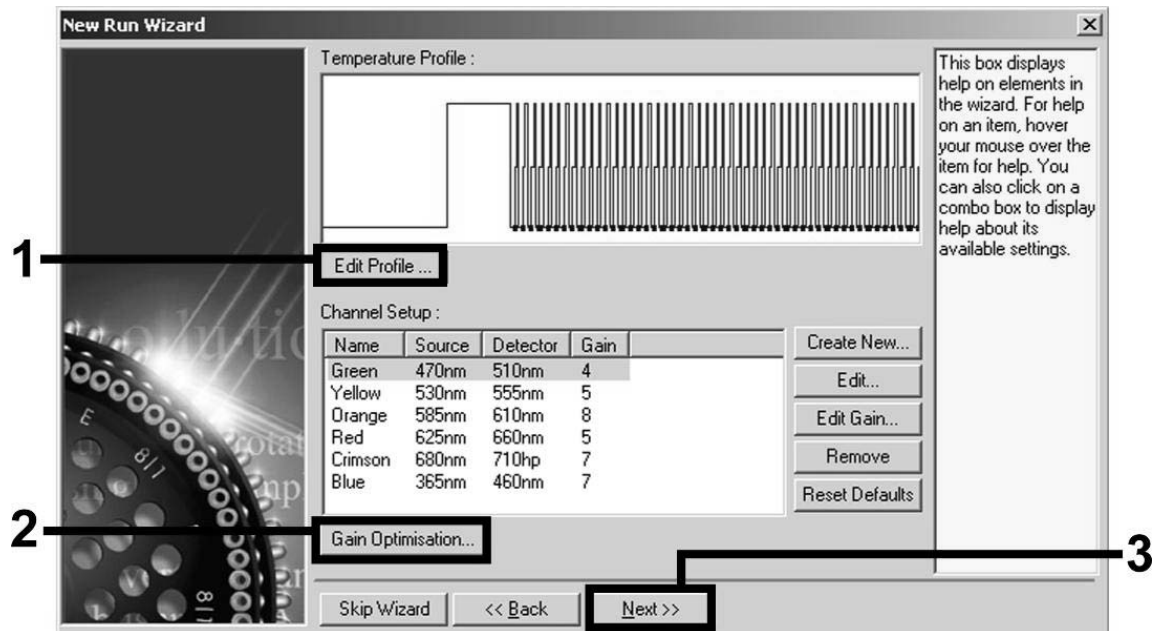
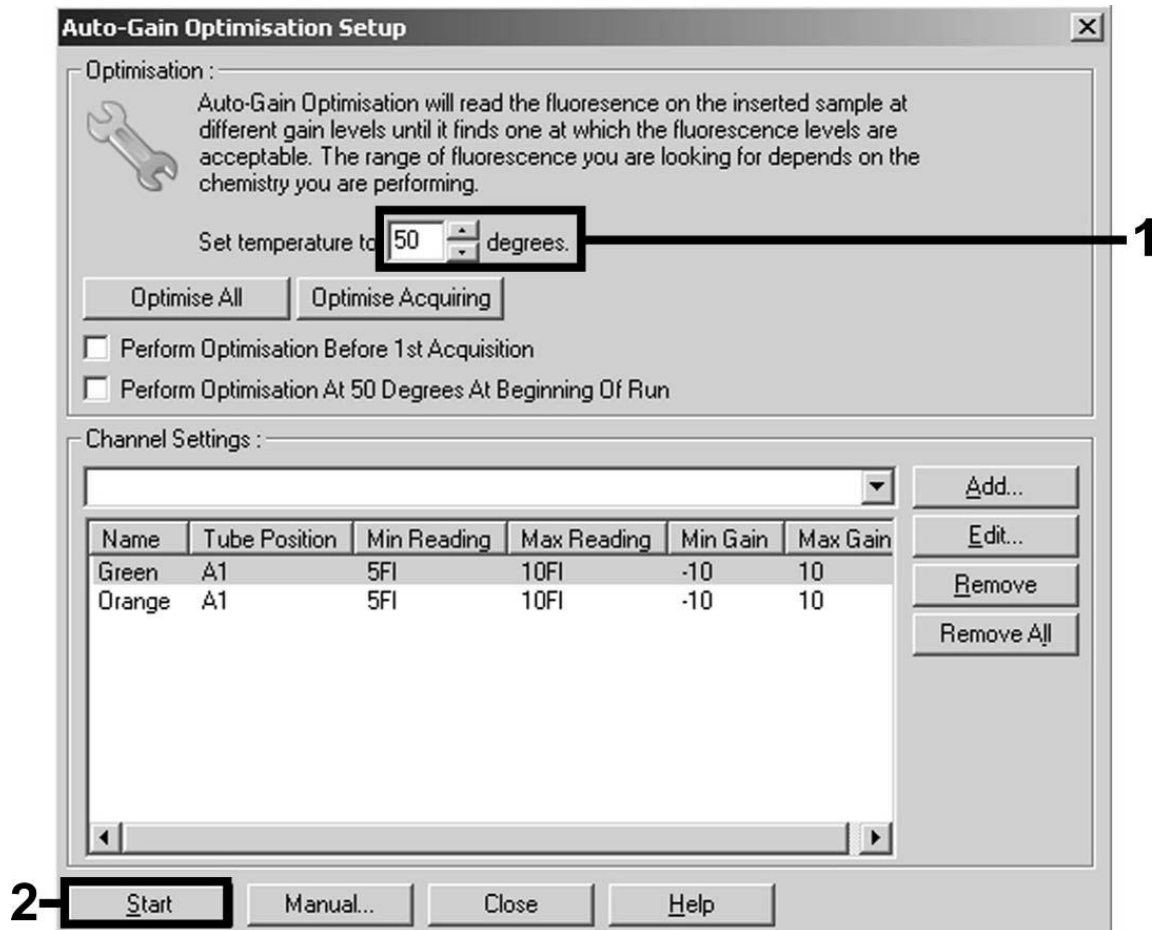

Figure 7. Editing the profile.
Figure 11. Adjusting the fluorescence channel sensitivity.
Adjusting the fluorescence channel sensitivity	Figure 11
- Click the "Edit Profile" button in the next "New Run Wizard" dialog box (Figure 7), and program the temperature profile as shown in Figures 7–10).
7. The detection range of the fluorescence channels has to be determined according to the fluorescence intensities in the PCR tubes. Click "Gain Optimisation" in the "New Run Wizard" dialog box (see Figure 7) to open the "Auto-Gain Optimisation Setup" dialog box. Set the calibration temperature to 50 to match the annealing temperature of the amplification program (Figure 11).